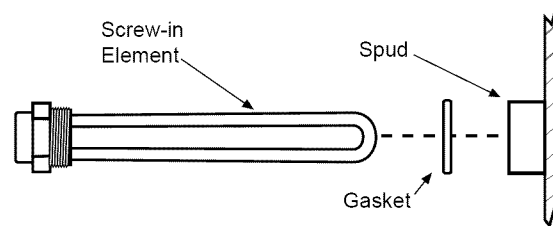

FIGURE 20.
9. Make sure the replacement element(s) has the correct voltage and wattage rating by matching it to the rating plate on the water heater. Position the new gasket(s) on the element and insert it into the water heater tank (Figure 20). **NOTE:** Apply a light coat of hand dishwashing soap and water to the gasket. Tighten the element by turning it clockwise until secure.